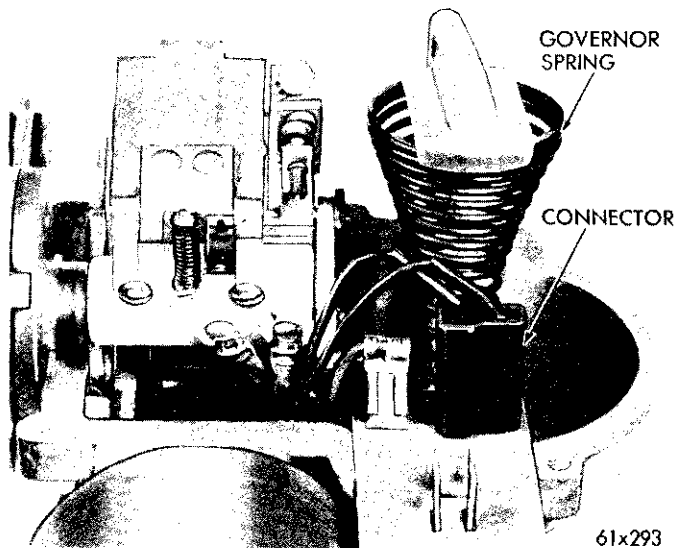

Fig. 21—Remove the Connector from the Terminal Block
(6) Disconnect the double plug-in connector from the terminal block (Fig. 21).
(7) Remove the governor spring (Fig. 21).
(8) Remove the ball socket from the end of the compressor rod and remove the compressor rod from the housing.
(9) Remove the guide clamp nut from the housing.
(10) Remove the compressor rod guide.
(11) Disconnect the spring from the armature lever and remove the armature lever and locking arm lever.
(12) Remove the gauge bolt and washer. Remove